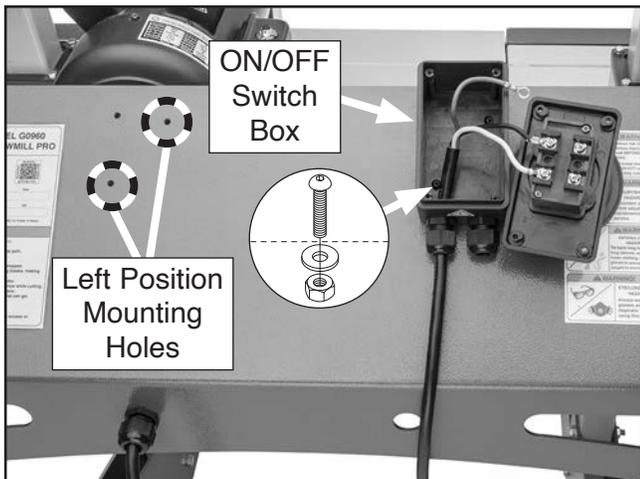

Figure 51. ON/OFF switch attached to switch panel (shown installed on right side of panel).
- 58. Attach ON/OFF switch box to switch panel with (1) M4-.7 x 20 button head cap screw, #10 flat washer, and M4-.7 hex nut (see **Figure 51**).